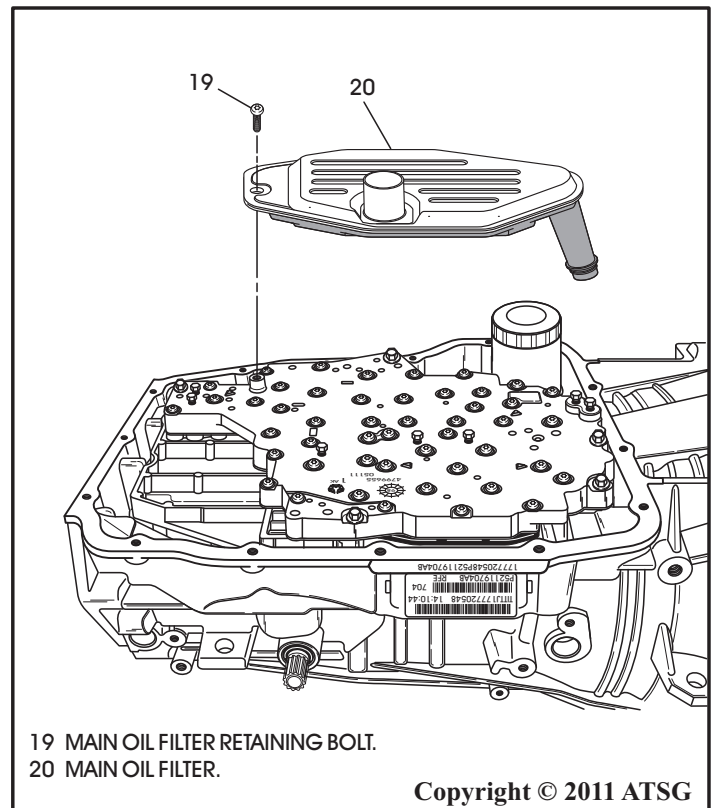

Figure 161
43. Lube new main oil filter neck with small amount of Trans-Jel®, and install the main oil filter into the filter seal, as shown in Figure 161.
44. Install the oil filter retaining screw, as shown in Figure 161, and torque to 4.5 N·m (40 in.lb.).